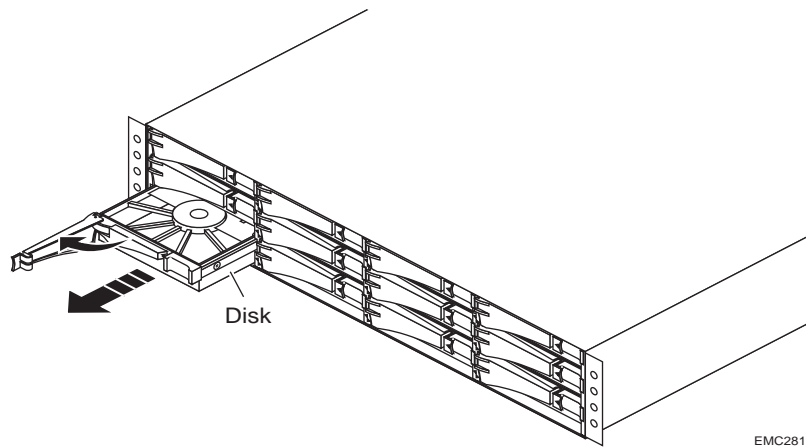

FIGURE 19. Removing a Disk Module
- c. If the active light is off or mostly off you do not need to wait for the disk to stop spinning. Pull the latch and slowly pull the module from its slot (Figure 19).